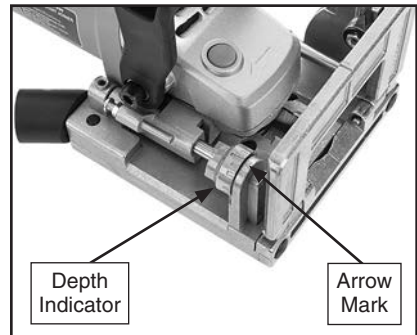

Figure 10. Depth indicator aligned with arrow mark.
1. Rotate depth indicator (see **Figure 10**) until desired depth marking on indicator aligns with arrow mark.